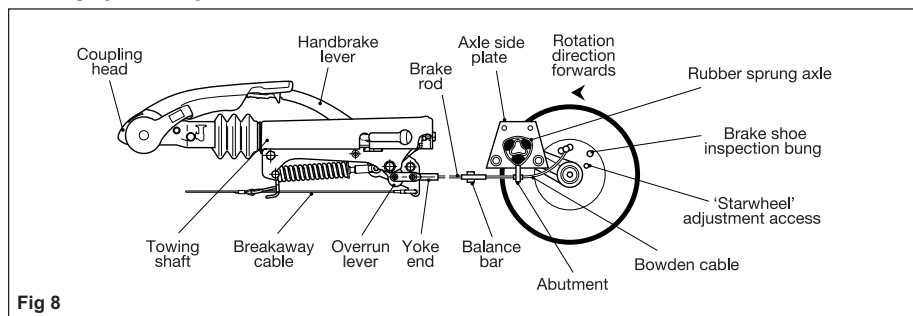
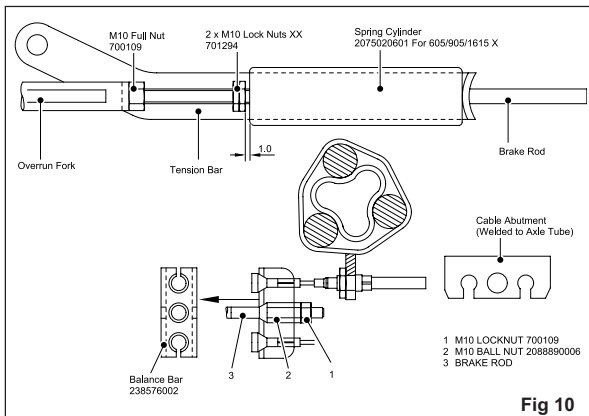

Fig 8
Fig 10
- Ensure the towing shaft with coupling heads is pulled fully forward (Fig. 8).
- Release the handbrake to the fully off position. If the handbrake will not go down the whole way because of the fairing or any other obstruction; then the fairing must be cut away and/or the obstruction removed to achieve this desired position. It will not be possible to set up the braking system properly when the handbrake is not in the fully off position (Fig. 8).
- Remove the inner plastic bung from the backplate to expose the 'starwheel' adjuster access (Figs. 8 & 9).
pulled out it should extend between 5 and 8 mm (Fig. 8). (On tandem axles a double abutment is fitted to the front axle only).
- Ensure the balance bar (compensation) is being pulled evenly. This bar (double on tandem axles) should always be paralleled with the axle tube when pulled (Figs. 8 & 10). Adjust M8 lock and ball nuts, if necessary, to achieve correct parallel position (Fig. 10).
- Over adjustment to the long ball nut (Fig 10), could induce movement of the inner brake cable, reducing the effective clearance of the brake shoes. If the overrun lever will not make contact, it is possible the two lock nuts, forward of the spring cylinder, are incorrectly adjusted. Loosen the nuts and adjust the brake rod as above (Figs 8 & 10).
- Adjust the two locking nuts, forward of the spring cylinder (Fig. 10), (on some chassis a single Nyloc nut is used) to give 1mm of clearance on the spring
(See Fig. 10). If the overrun assembly is fitted with a gas strut handbrake then no spring cylinder is fitted - therefore ignore this paragraph).